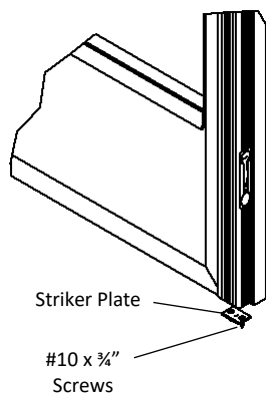

Fig. 12
- After drilling bottom hole for flush bolt to latch into take the striker plate and position center hole of striker plate over center of hole drilled into bottom side of threshold. Use the (2) #10 x  $\frac{3}{4}$ " Sq. Flat Stainless-Steel screws to secure striker plate. (Fig. 12)